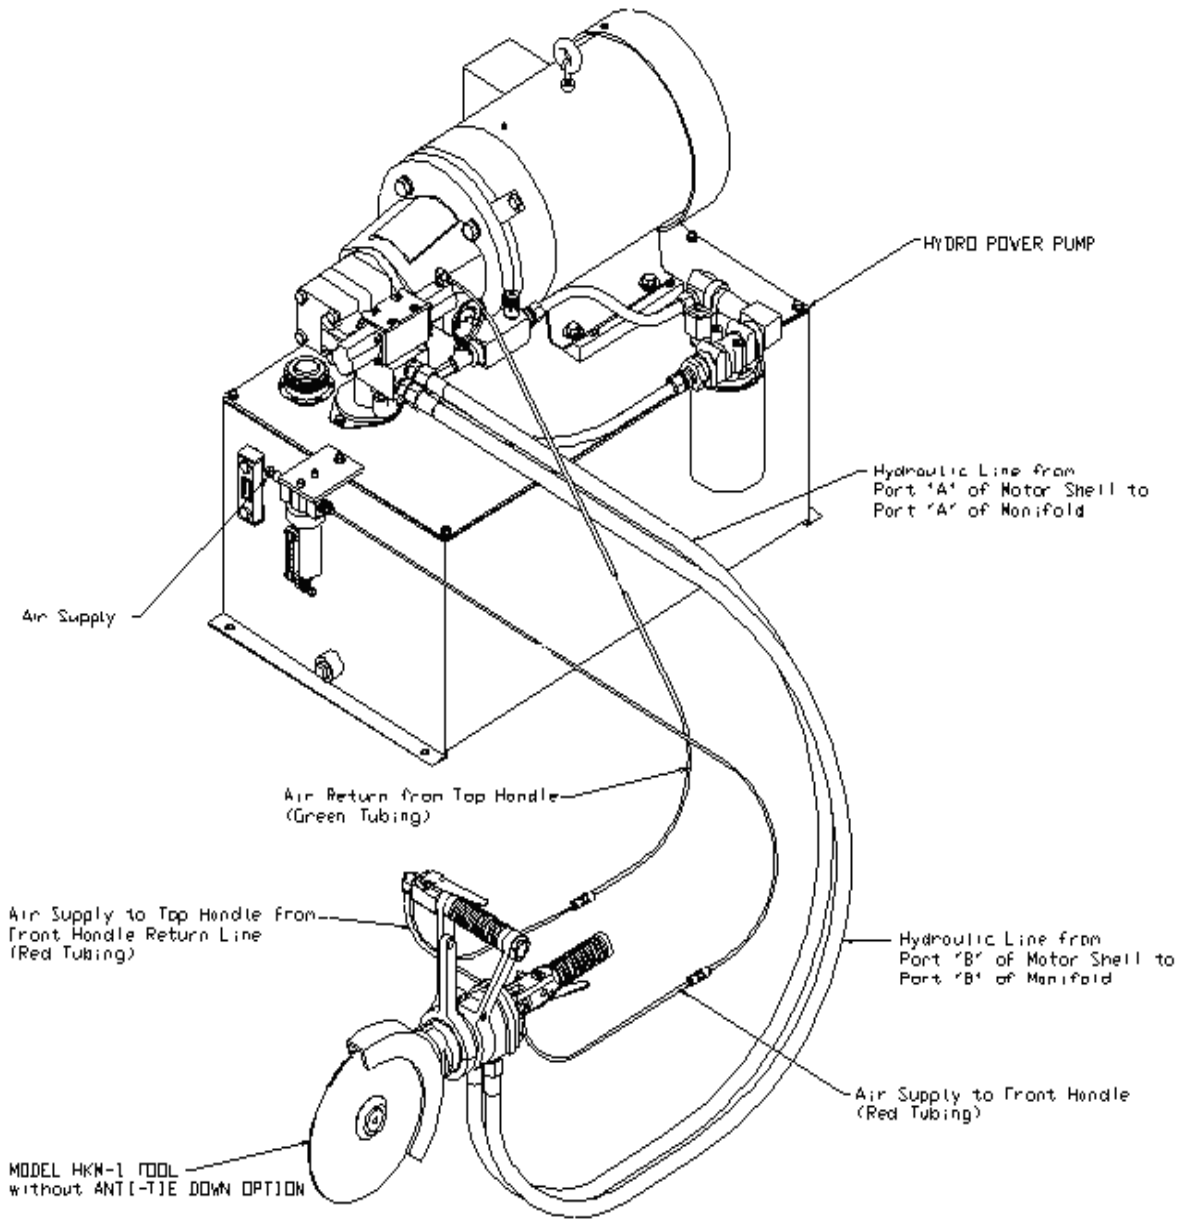

Figure 4 HPP-1- TUBING DIAGRAM WITHOUT ANTI-TIE DOWN
4. ATTACH HOSES AND TOOL TO THE PUMP. KENTMASTER RECOMMENDS UP TO 20 FT LONG HOSES BETWEEN TOLL AND PUMP. (CONNECTION DIAGRAM FIGURE 4 AND 5)
6. CONNECT AIR SUPPLY AND AIR LINES COMING FROM TOOL ACCORDING TO YOUR CONTROL OPTIONS. (CONNECTION DIAGRAM FIGURE 4 AND 5)
- MAKE SURE AIR CONTROL LINES ARE CONNECTED ACCORDING TO THE DIAGRAM (FIG. 4 AND 5)
WIRING AND CONNECTION FOR STANDARD AND ANTI-TIE DOWN OPTION ARE SHOWN IN FIGURES 4 AND 5.